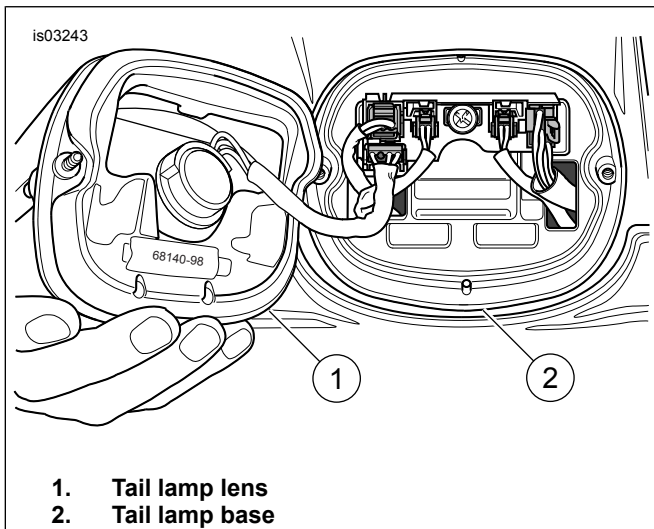

Figure 1. Remove Tail Lamp Lens
2. See Figure 1. Remove two screws and tail lamp lens (1) from base (2).
11. See Figure 1. Install tail lamp lens (1) on base (2) using two screws.